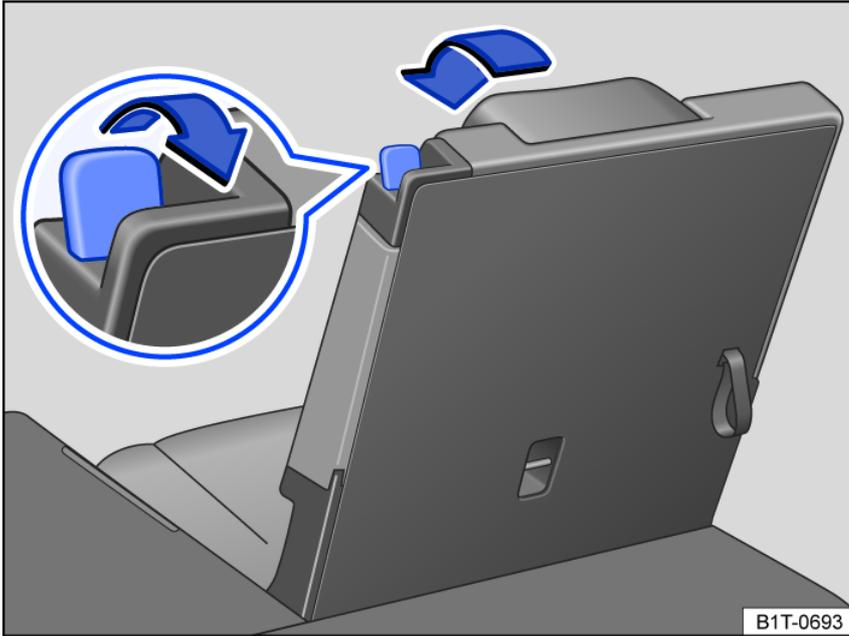

Fig. 80 Third row seat: folding the rear seat into the cargo floor position.
7. To release the rear seat backrest, pull the release lever *fig. 80* all the way back.
- A red marking on the release lever *fig. 80* indicates that the rear seat backrest is not latched. The red marking must not be visible when the backrest is latched.